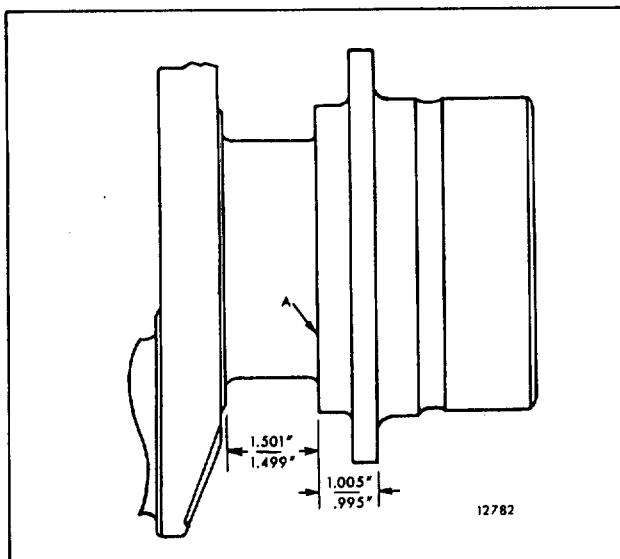

Fig. 9. Standard Dimensions at Crankshaft Thrust Surfaces
6. If the thrust surfaces of the crankshaft (Fig. 9) are worn or grooved excessively, they must be reground and polished. Care must be taken to leave a .130" to .160" radius between each thrust surface and the bearing journal.
If the crankshaft thrust surfaces were reground, it may be necessary to install oversize thrust washers on one or both sides of the rear main journal. Refer to Fig. 9 and Table 3.